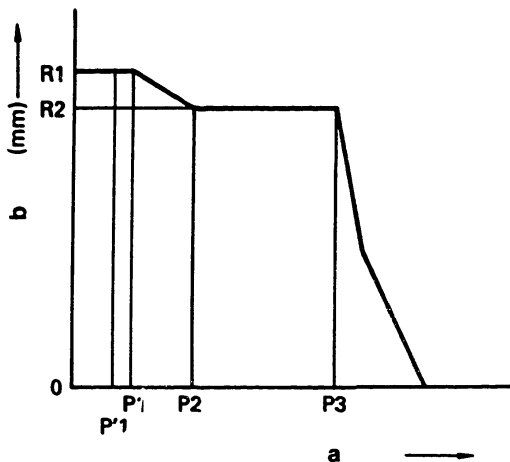

Fig. 82
- 2. When the performance of the pneumatic governor is as shown in Fig. 82:
- a. Maintain pump speed at 1,000 rpm and reduce the pressure of the pneumatic governor's negative pressure chamber to $P'1$ mmAq (Fig. 82).